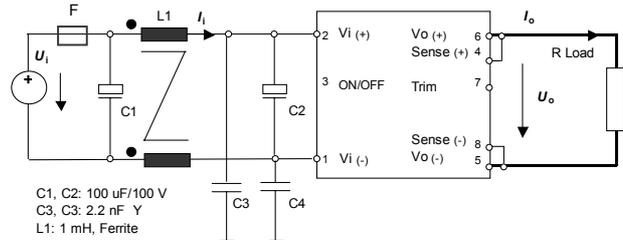

Figure 44: TXS with a one stage input filter.
Figure 48: TXS100ZB-N with a one stage input filter according figure 44 and an inductor in the ground line to the output.  $L2 = 9.6 \text{ mH}$ ,  $\mu_1 = 50'000$ , (VAC W620)
- The EMI measurements have been done with a one stage input filter according to Figure 44.